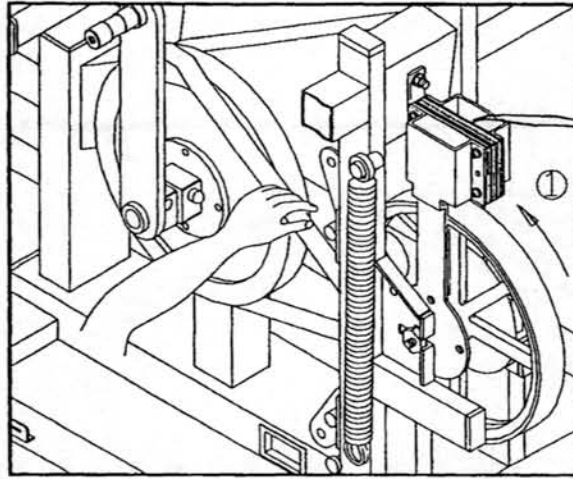

Fig.5-3
4. Turn the WHEEL moving by hand in one side and pull the belt until sliding out from the WHEEL (see fig 5-3)